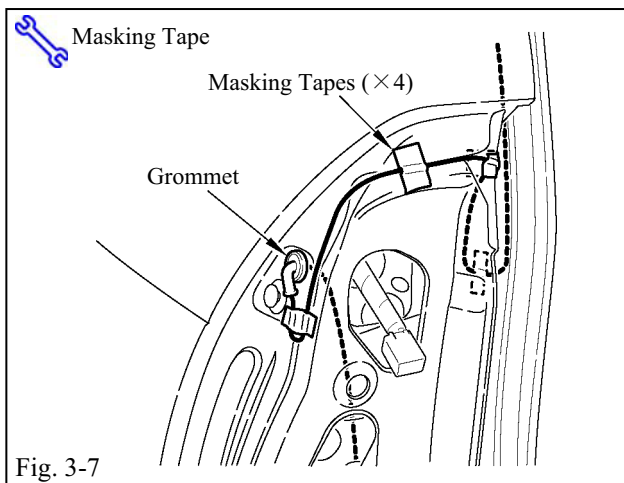

Fig. 3-7
- (1) Lay the antenna cable as shown in the illustration, hold it temporarily in position with masking tape, and then fix it securely with the grommet (Fig. 3-7).